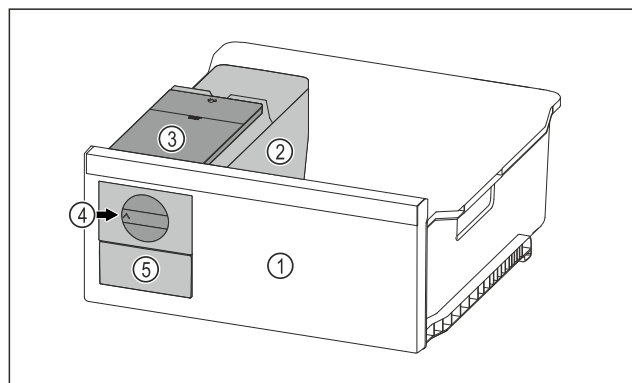

Fig. 127 Example illustration
- Turn the rotary knob Fig. 127 (4) clockwise as far as it will go.
- Ice cubes fall from the ice cube tray into the ice cube drawer Fig. 127 (5).